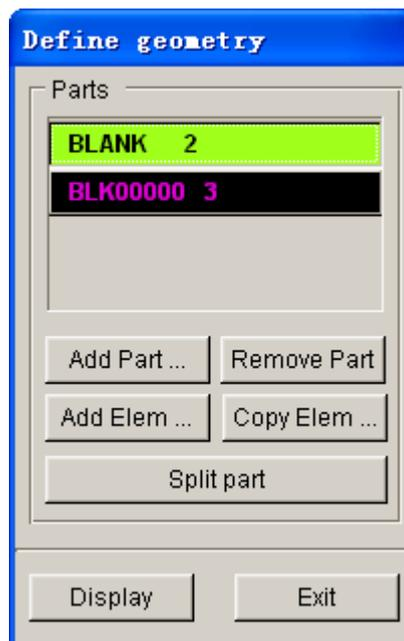

Figure 5.31 Blank geometry list
6. Click **OK** button to complete the **Split part** operation. The selected elements are copied to a new part named **BLK00000**. The part is automatically included in the blank geometry list illustrated in Figure 5.31.